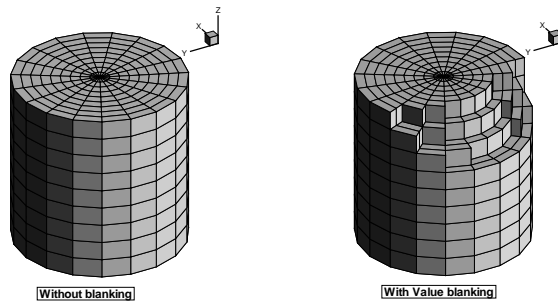

Figure 8-4. Examples of plots where **Surfaces to Plot** has been set to **Exposed Cell Faces** with (left) and without (right) value-blanking.
- **Exposed Cell Faces (default)** - This setting is similar to the “Boundary Cell Faces” setting, unless value blanking is active. When value blanking is used, the outer cell faces between blanked and non-blanked cells and the outer surfaces of the data are drawn. Figure 8-4 shows a plot of a volume zone with Surfaces to Plot set to “Exposed